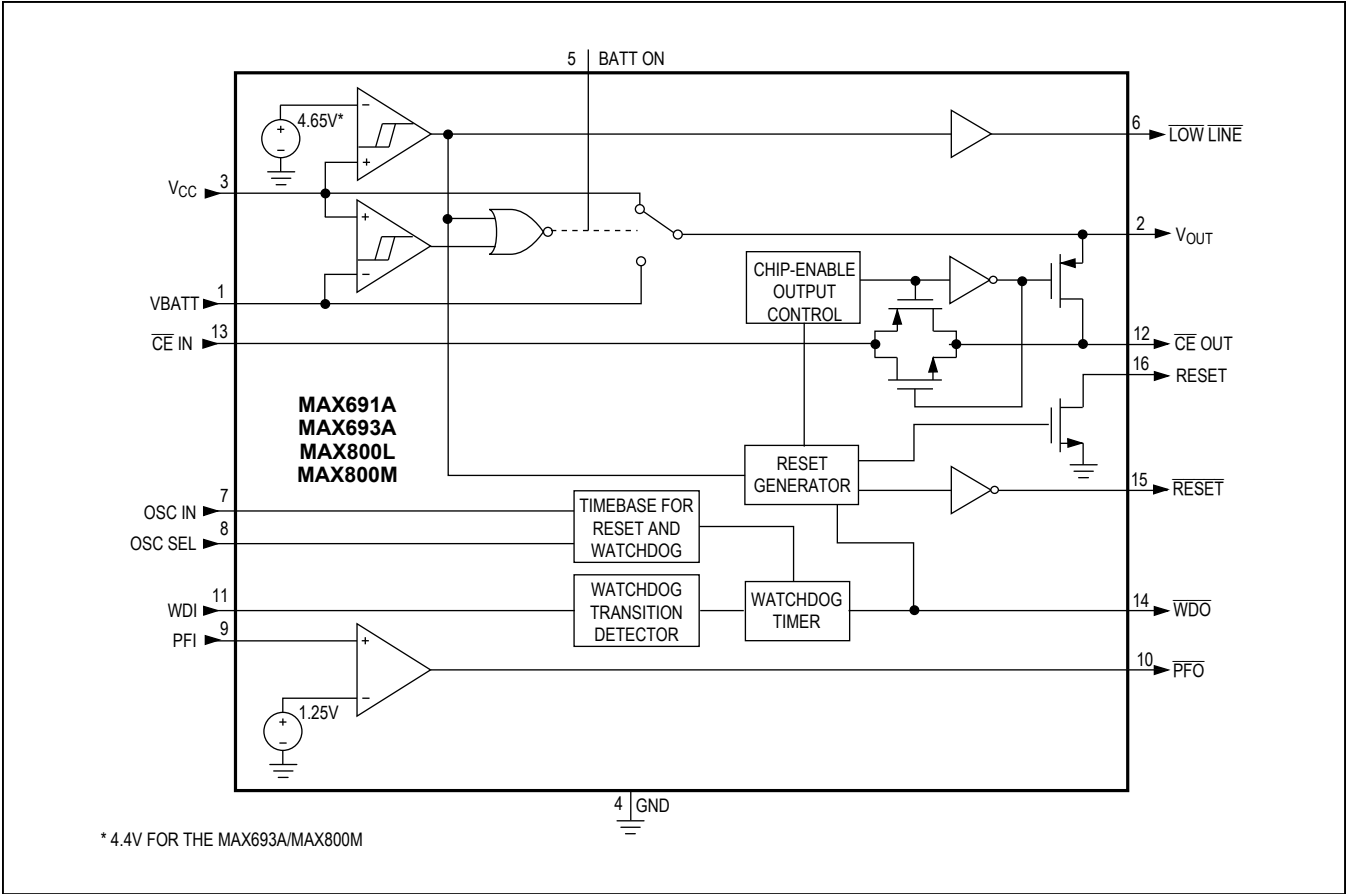

Figure 4. MAX691A/MAX693A/MAX800L/MAX800M Block Diagram
The MAX691A/MAX693A/MAX800L/MAX800M provide internal gating of chip-enable (CE) signals to prevent erroneous data from being written to CMOS RAM in the event of a power failure. During normal operation, the CE gate is enabled and passes all CE transitions. When reset is asserted, this path becomes disabled, preventing erroneous data from corrupting the CMOS RAM. All these parts use a series transmission gate from CE IN to CE OUT (Figure 4).